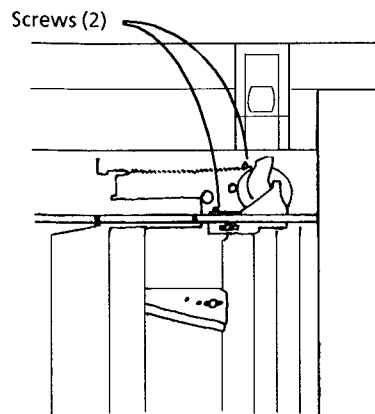

Figure 1. Removing the Screws
5. Remove the Lens Drive Motor screws (Figure 1)
8. Move the 4/5 Mirror Carriage to the right and remove the Lens Drive Motor through the opening (Figure 1)